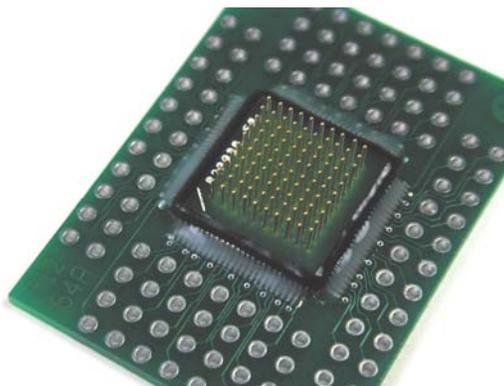

Figure 3: Applying Flux
4. Apply supplemental flux (water soluble or no-clean) to the lead/pad area along each side of the foot as shown in Figure 3.